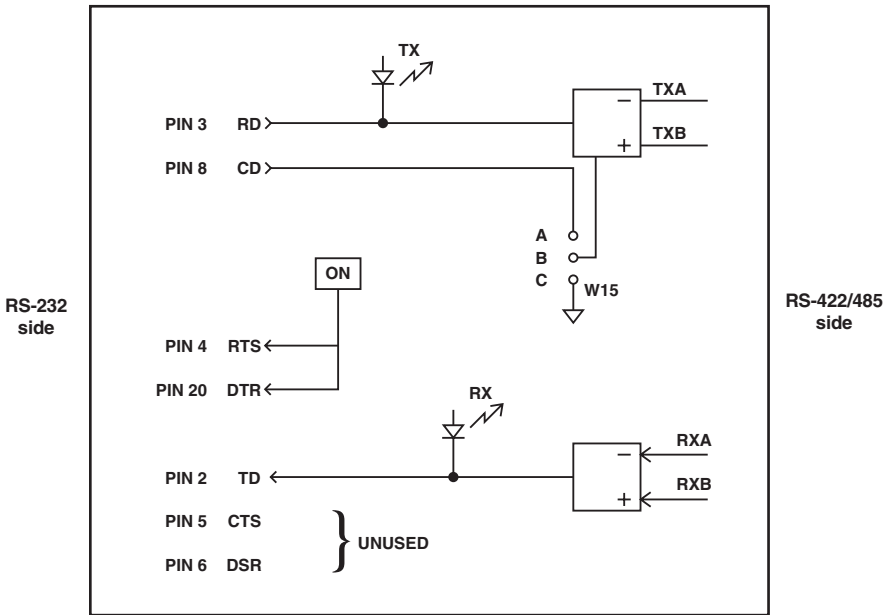

Fig. 4-2 Block Diagram of Converter Functions in DTE Mode
In DTE operation (see Fig. 4-2), Pin 8 (CD) performs the same function as RTS/DTR did for DCE; Pin 8 asks for permission to send. Again, you can constantly enable the RS-422/485 driver by setting the W15 jumper in the B and C position.